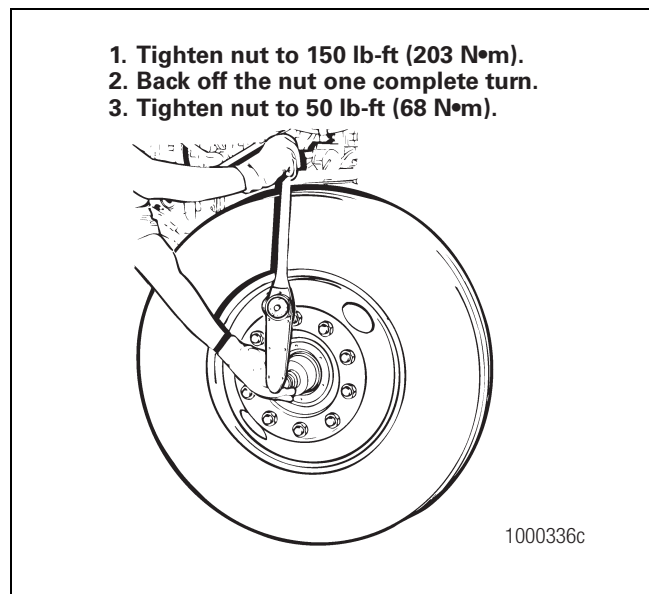

Figure 7.5
9. Use a torque wrench to tighten the adjusting nut to 150 lb-ft (203 N•m) while rotating the tire a minimum of five revolutions. Figure 7.5.
10. Back off the nut one complete turn. Tighten the nut to 50 lb-ft (68 N•m). Figure 7.5.